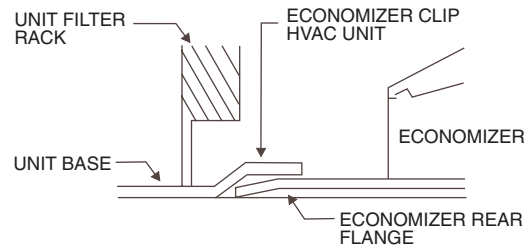

Fig. 28 — Rear EconoMiSer Flange Installation
- Slide the EconoMiSer assembly into the rooftop unit. See Fig. 28 and 29.
NOTE: Be sure to engage rear EconoMiSer flange under tabs in return air opening of the unit base. See Fig. 28.